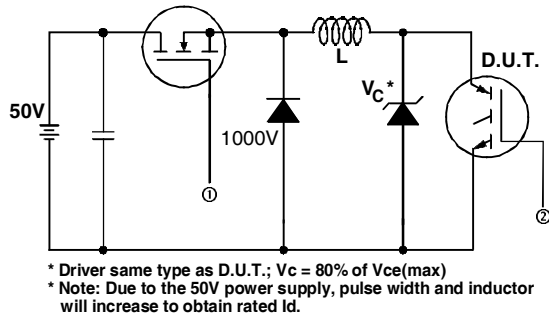

Fig. 13a - Clamped Inductive Load Test Circuit
- ② $V_{CC} = 80\%(V_{CES})$, $V_{GE} = 20V$, $L = 10\mu H$, $R_G = 23\Omega$, (See fig. 13a)
- ③ Repetitive rating; pulse width limited by maximum junction temperature.
- ④ Pulse width $\leq 80\mu s$; duty factor $\leq 0.1\%$.
- ⑤ Pulse width $5.0\mu s$, single shot.
- ⑥ $t = 60s$, $f = 60Hz$